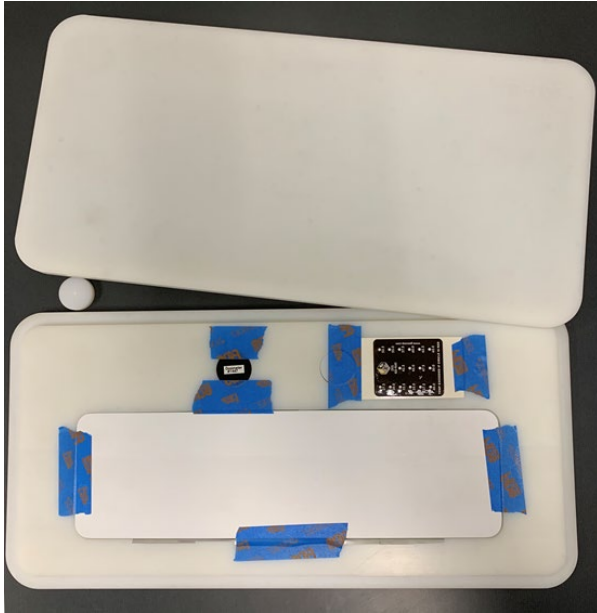

FIGURE 3
5. All materials should be secure with no possibility of movement during irradiation. See Figure 3 below.